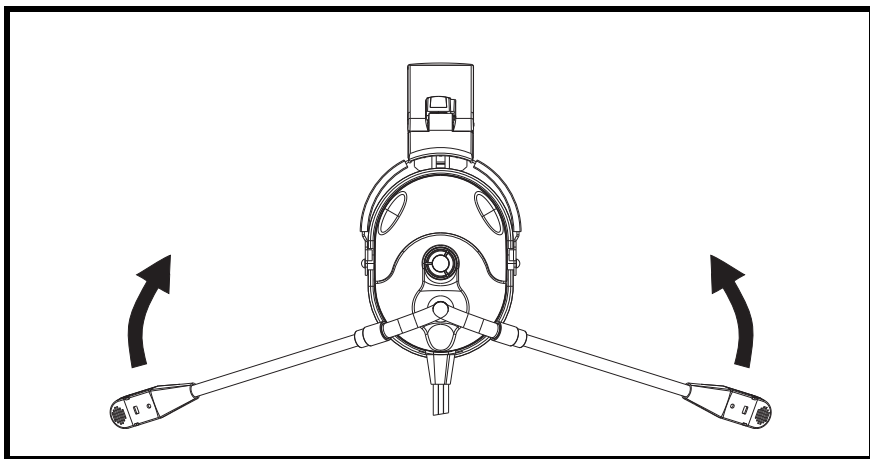

FIGURE 5. Microphone Placement
4. Rotate the **entire boom** overhead to wear the microphone on either the right or left side of the head. See Figure 5.